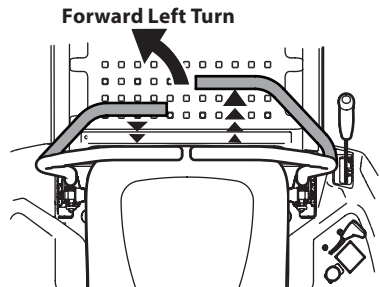

Figure 24
1. To turn to the left, move the left drive control lever rearward of the right drive control lever. See Figure 24.